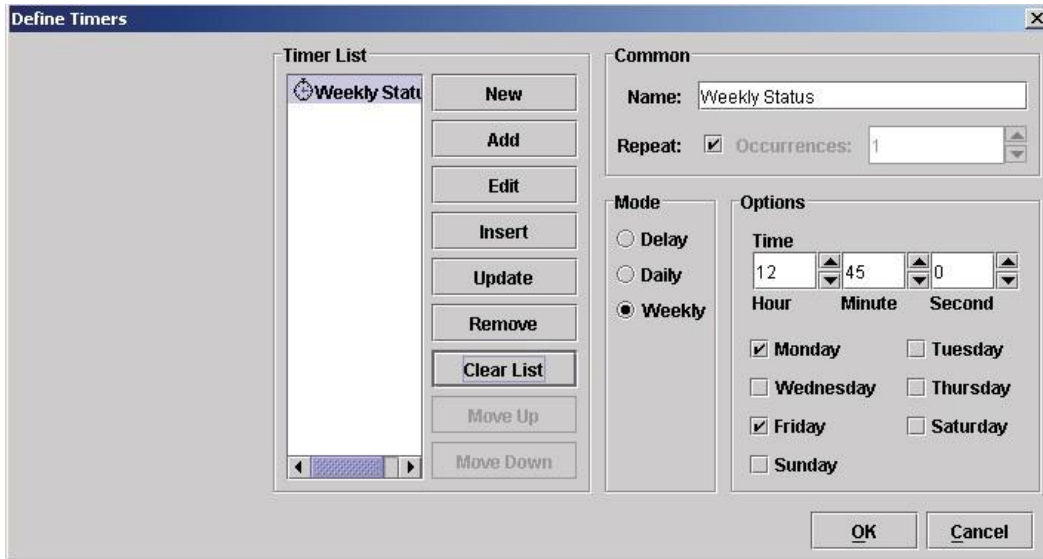

Figure 220 Setting a Weekly Timer
6. Click **Add**. The Weekly Status timer is added to the Timer List. See Figure 220.